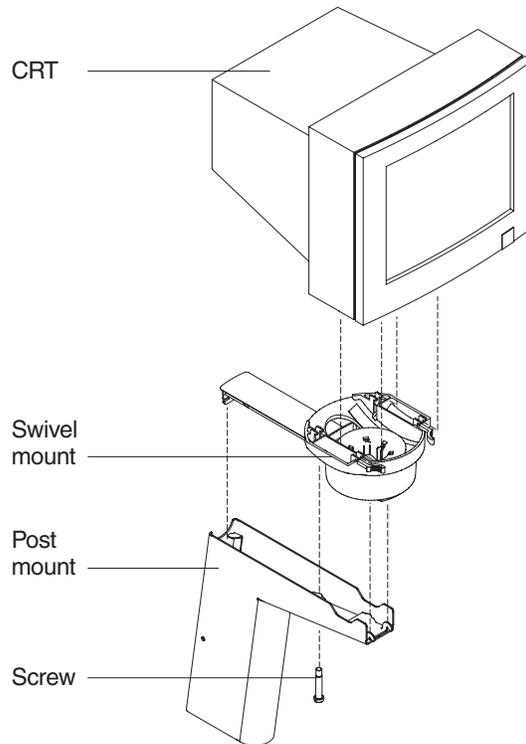

Figure 30. Post-mounted CRT
3. Remove the screw from under the arm of the post mount. The screw attaches the swivel mount to the top of the post mount (see Figure 30 on page 29).